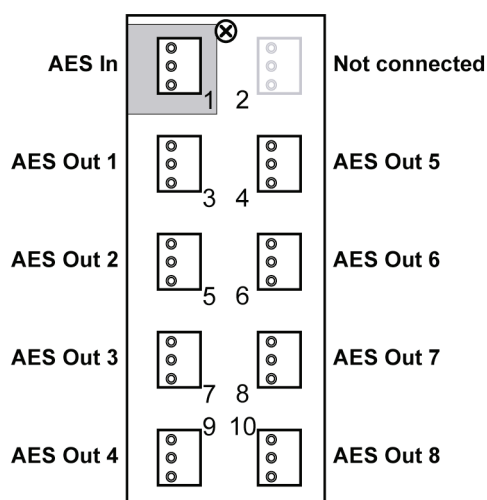

Figure 4. Cable Connections for the DFR-8320 frames with the R2B-8401 Rear Module
- **R2B-8401 Full Rear Module** — Each card occupies two slots and provides one AES input and eight outputs. Refer to **Figure 4** for cable connections.